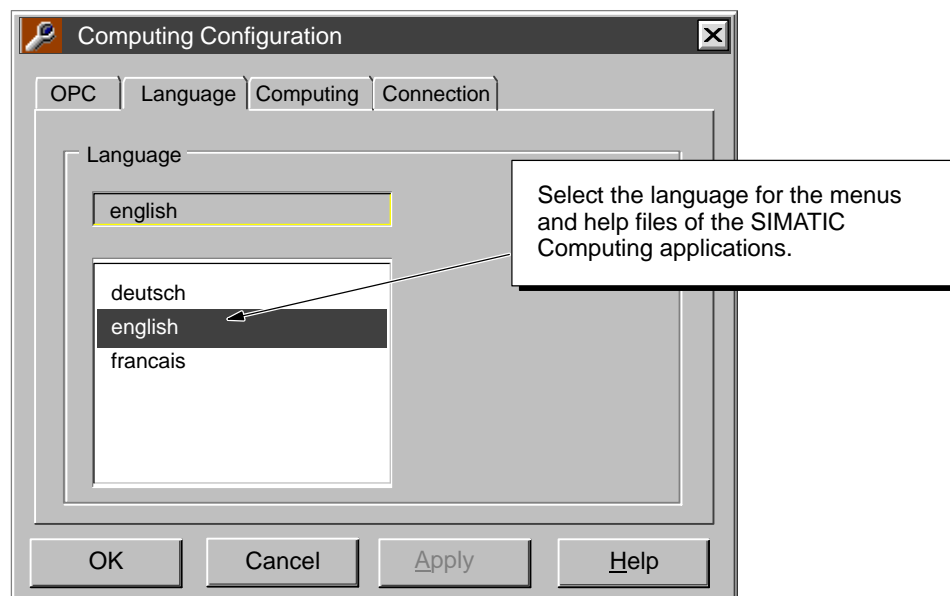

Figure D-2 Selecting the Language for the CPU Panel and Help Files
3. Select the language for the CPU panel (German, English, or French). See Figure D-2.